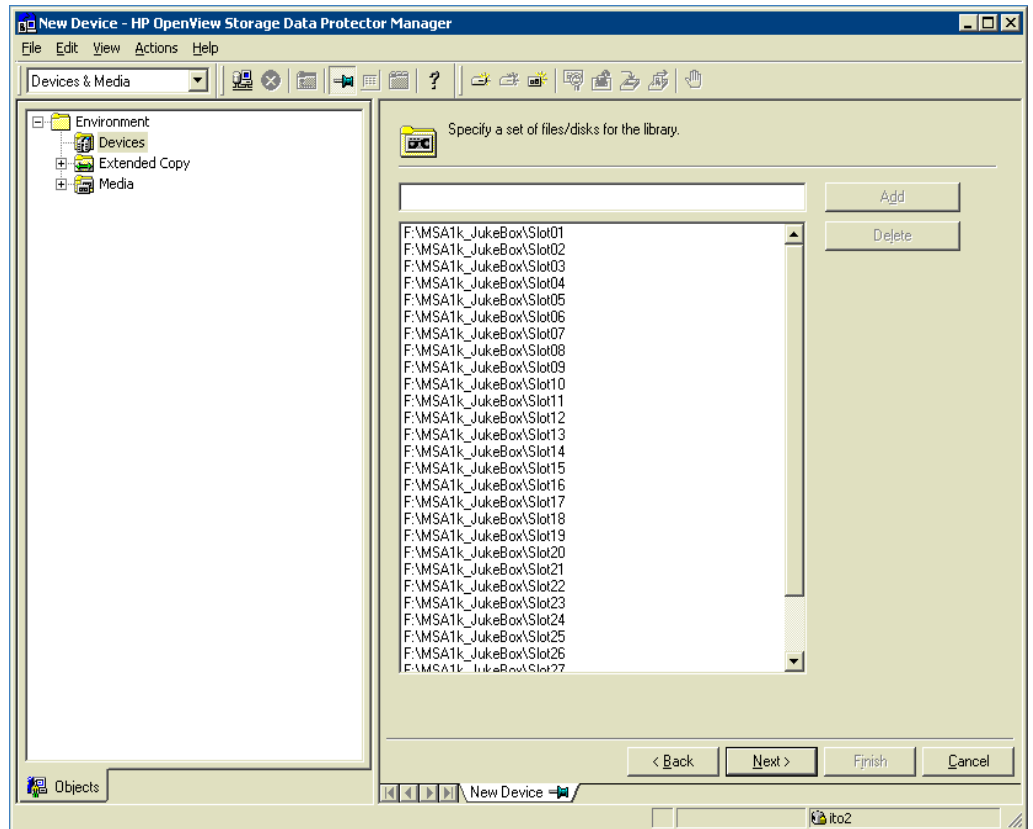

figure 7
8. Review the slotnames and determine if they were added successfully. If the information in the screen (figure 7 below) is correct, click **Next**.